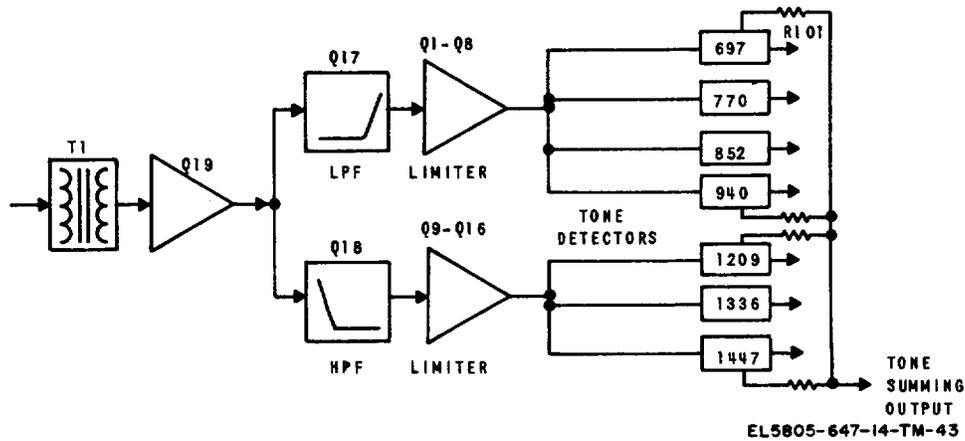

Figure 4-14. DTMF tone receiver 40452-02, simplified block diagram.
(4) Transistors Q17 and Q19 form an amplifier with a zero degree phase-shift. Both the input and output of the amplifier are connected together and to the parallel tank circuit (L6, C28, and C29). Under normal conditions, the tank circuit will oscillate; oscillation is prevented when Q18 is turned "on". This causes the collector of Q19 to be shorted out to the -24 vdc, preventing gain in that stage, hence oscillation. When switch S1 is closed, transistor Q18 is turned "off" allowing the oscillator to function normally. Also, when pin F is at -48 vdc, this biases Q18 "off" and again allows the oscillator to function normally. The signal is sampled from the L3 network via R69 to the base of Q20. Transistor Q20 (common collector or emitter follower) serves as an impedance lowering stage. The output signal is taken from the wiper of R71 which serves as a level adjust. Transistor Q21 serves as a power amplifier and drives the output transformer T2 via C32. The secondary windings of T2 are set up to either drive two 600-ohm lines, or to serve as a summing point for voice and tone signals.
b. *DTMF Tone Receiver 40452-01* (fig. 4-14 and FO-12). The input signals from the 4W REC LINE pins C and D and are coupled by high impedance transformer T1 to the base of input amplifier transistor Q19, the input amplifier (common emitter) provides isolation, gain and a low impedance drive source for the filters. The
(1) The tone detectors convert the presence or absence of their particular tone into a corresponding dc level. The detected tones are resistively summed and sent to the tone summing output. As shown in figure 4-14, transistors Q20 and Q21 are the detector transistors for the 697-Hz tone. The input signal is received from the amplifier limited through resistor R59. The receipt of a signal of the proper frequency causes regeneration due to the positive feedback of R60. The emitter current of Q20 is filtered by C24 to provide a dc input level to Q21. Therefore, Q21 is "off" when no tone is present and "on" when the tone detector receives a signal of the correct frequency. The operation of the other tone detectors is identical to that of the 697-Hz circuit.
(2) Resistors R101 through R107 form the tone summing network whose output is a complex waveform consisting of the sum of the detected frequencies. The tone summing output (decoded tone pair) is applied to transistor Q17 of the digit decoder.